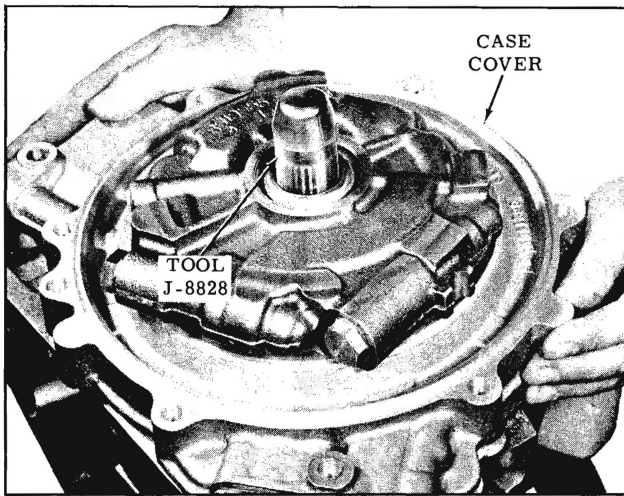

Fig. 3-311 Installing Case Cover
- 47. Install the case cover and pump assembly while aligning the attaching bolt holes. Install Tool J-8828 on shaft before installing case cover if seal was not removed. (Fig. 3-311)